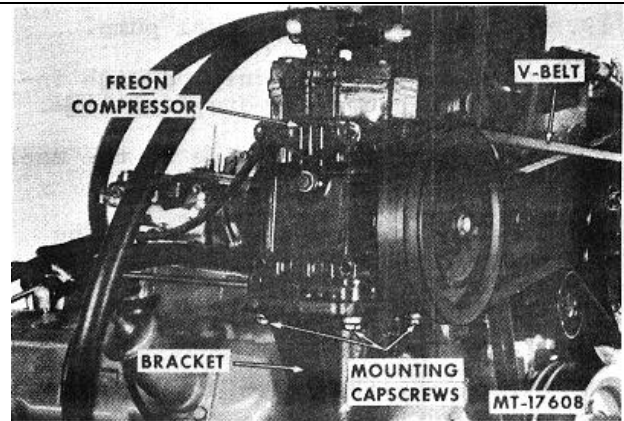

Fig. 8 Freon Compressor Removal
3. Loosen freon compressor mounting capscrews (Fig. 8) and slide compressor toward centerline of engine. Remove V-belt and then the freon compressor.